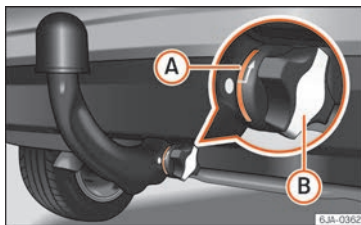

Fig. 238 Correct placement of the ball-headed bar.
- The red mark **A** »» **Fig. 238** on the manual regulator signals toward the white mark on the ball-headed bar.